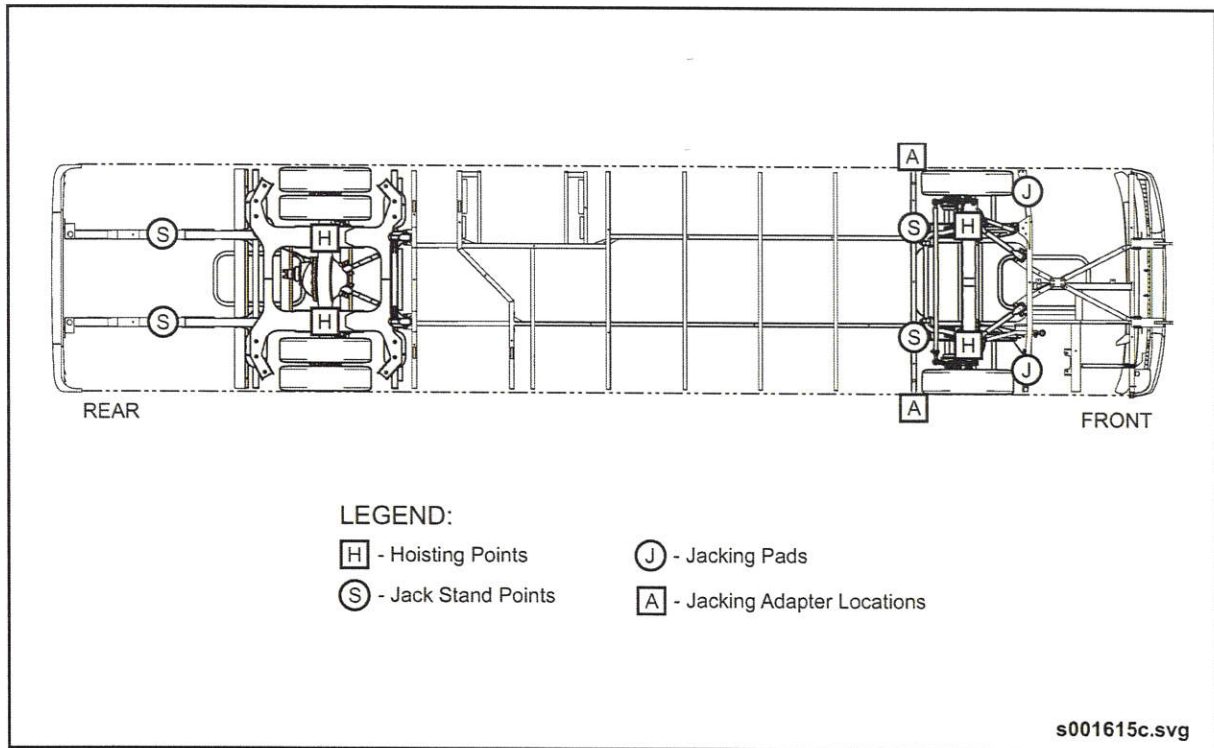

Fig. GI-20: Jacking (hoisting) Points & Stand Placement
- a. Locate the appropriate jack stand point under the frame rail at the rear of the vehicle. See "Fig. GI-20: Jacking (hoisting) Points & Stand Placement" on page 41.